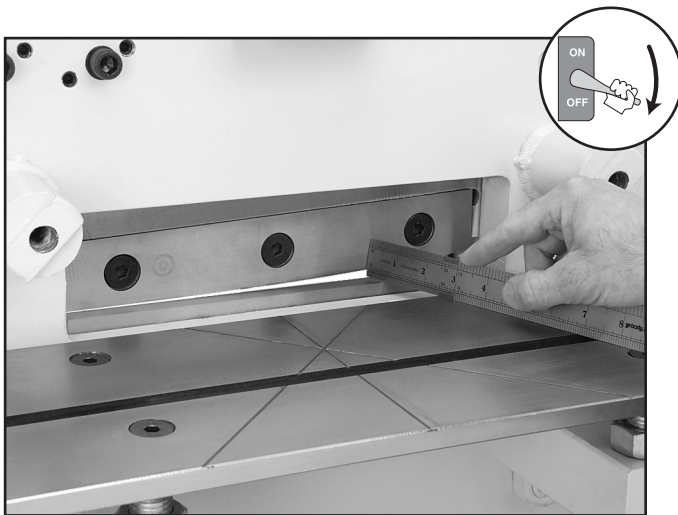

Figure 64. Straightedge on shearing table and die.
2. Place a straightedge across the shearing table and the top of the bottom die in multiple locations (see **Figure 64**).